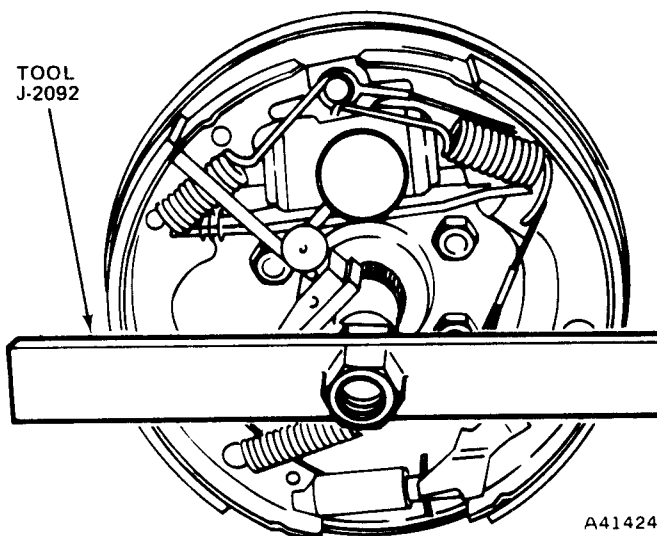

Fig. 10-22 Checking Axle Shaft End Play
(1) Strike end of each axle shaft with lead hammer to seat bearing cups against support plate.
(2) Attach Axle Shaft End Play Tool J-2092 to end of left side axle shaft. Mount dial indicator on support plate or tool, and check end play while pushing and pulling on axle shaft (fig. 10-22).
(3) End play should be 0.004 to 0.008 inch, 0.006 inch is desired.
(4) Add shims to increase end play, remove shims to decrease end play.
(5) Install hub and drum as outlined in Rear Axle Hub—Installation.
(6) After axle shaft end play is checked and corrected, adjust brakes as outlined in Brake Section.